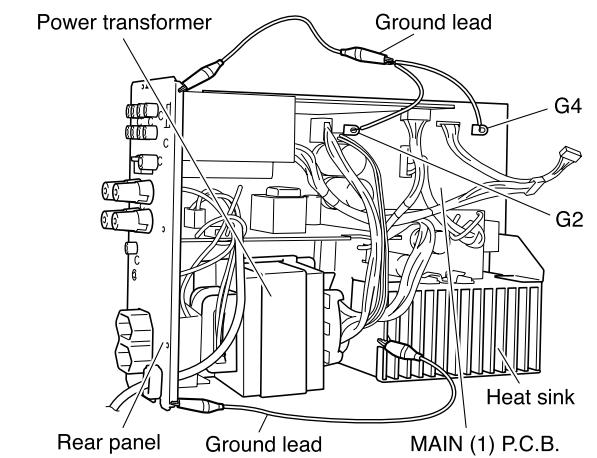

Fig. 5
- j. Remove the power transformer and MAIN P.C.B. (with the rear panel attached) from the main chassis. (Fig. 5)
- At this time, set the power transformer on its side as well. (Fig. 5)
- l. Using a ground lead or the like, connect G2 and G4 of the MAIN P.C.B. with the rear panel. (Fig. 5)